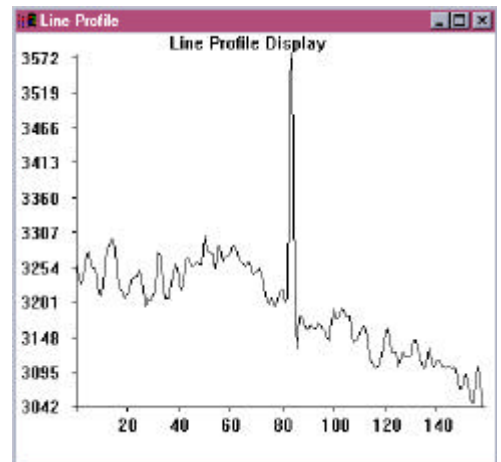

Figure 6: Line Profile Display
- a. **Line Profile Display:** This tool graphs luminosity vs. distance, which is very helpful for setting contrast parameters. Click the Line Profile Display Toggle in the MuraTool Main Window. Execute the program. In the DUT Image Window, hold down the right mouse button, move cursor along desired line and release button when ready. The graph in Figure 6 will be displayed. Close the Line Profile Window and repeat as many times are desired. Hit the space bar and MuraTool will move to the Segmentation stage.